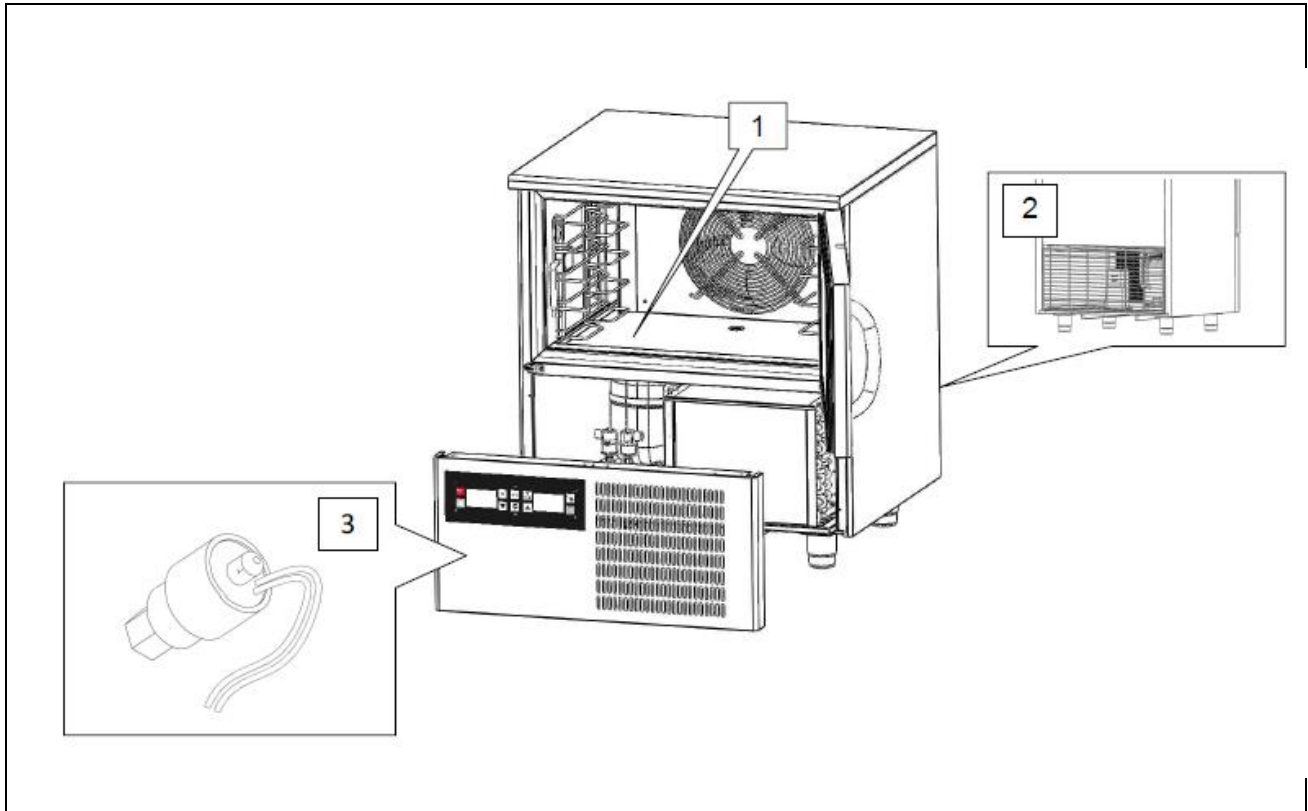

Fig. 5
- grilles covering the cooling fans (ref. 1 fig. 5);
- grilles covering the condenser unit (ref. 2 fig. 5).
- Sensor (ref. 3 fig. 5) located on cooling circuit signals any overheating of the equipment and places the machine on standby.